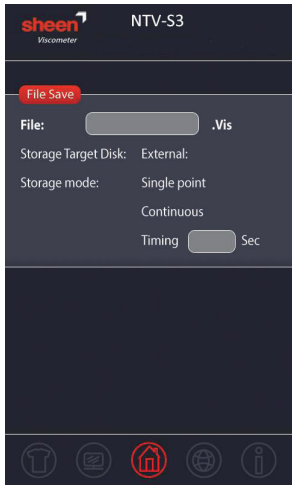

FIG. 6
- 6) File Management Setting: click the button  to enter (FIG.6).